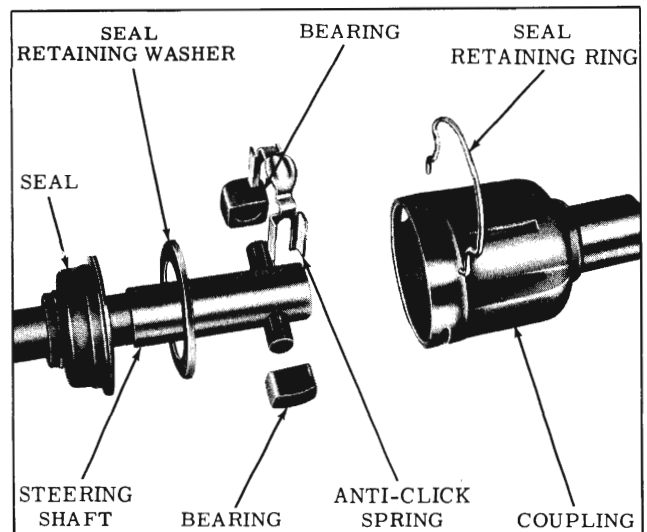

Fig. 4-288 Coupling Assembly
2. Position the steel seal retaining washer on the steering shaft above the pivot bearings. (Fig. 4-288) Install the pivot bearings and the anti-click spring and retain with grease.